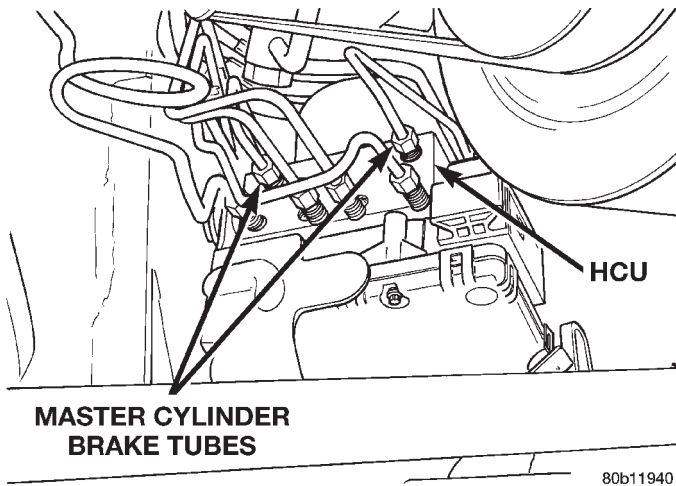
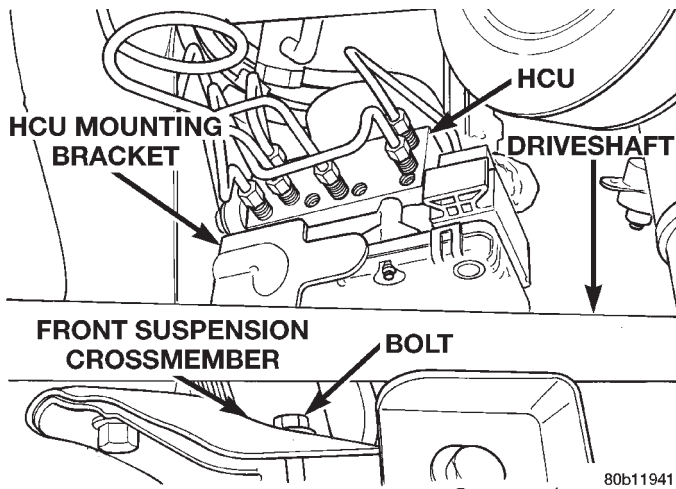

Fig. 28 Master Cylinder Brake Tube Connections to HCU
Fig. 29 HCU Mounting Bracket Front Bolt
(10) Remove the primary and secondary brake tubes coming from the master cylinder from the HCU inlet ports (Fig. 28).
(11) Remove the bolt (Fig. 29) attaching the front leg of the HCU mounting bracket to the front suspension crossmember.
(6) Install the bolt (Fig. 29) attaching the front leg of the HCU mounting bracket to the front suspension crossmember.
(7) Tighten the 3 bolts mounting the HCU mounting to the front suspension crossmember to a torque of 28 N·m (250 in. lbs.).
(8) Install the primary and secondary brake tubes coming from the master cylinder in the HCU inlet ports (Fig. 28).